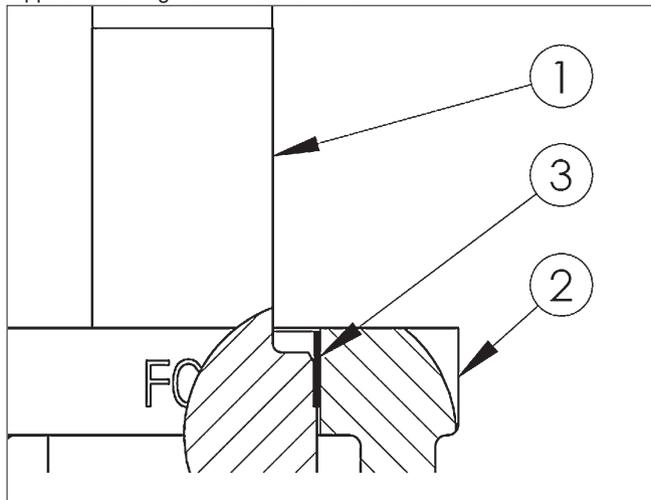

Figure 15. Proper bearing locations
6. Press the coupling (1) upward until the bearing (3) sits flush on the bearing shoulder of the coupling (1) and is flush with the top flange of the bracket (2). (See Figure 15).